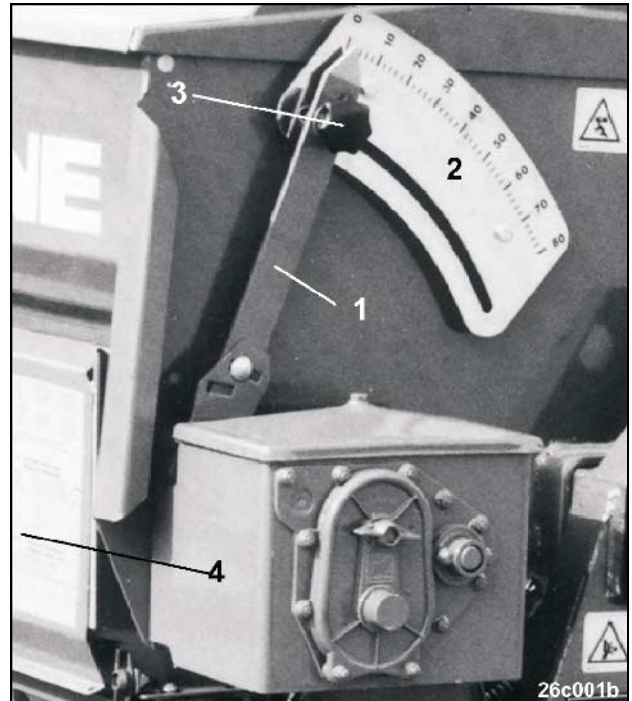

Fig. 118
By adjusting the gearbox setting lever (Fig. 118/1) the fertiliser rate to be spread can be set. Proceed as follows:
- Slacken the knob (Fig. 118/3) by turning counter clockwise
The higher the figure on the scale (Fig. 118/2), the bigger the fertiliser spread rate will be.